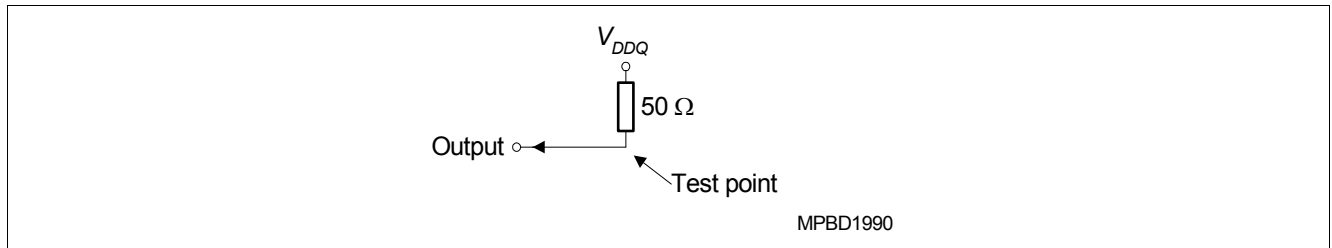

Figure 52 Pullup slew rate test load
- 1) Pullup slew rate is characterized under the test conditions as shown in Figure 52.
- Pullup slew rate is characterized under the test conditions as shown in Figure 52